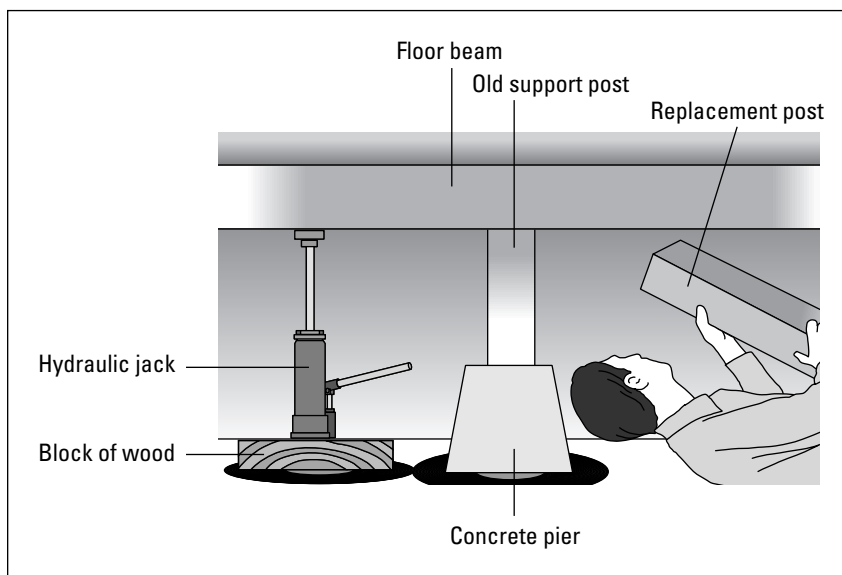

Figure 4-11:
2. **Jack up the floor slightly (just enough to relieve any pressure on the existing support post) and knock out the existing post (see Figure 4-11).**